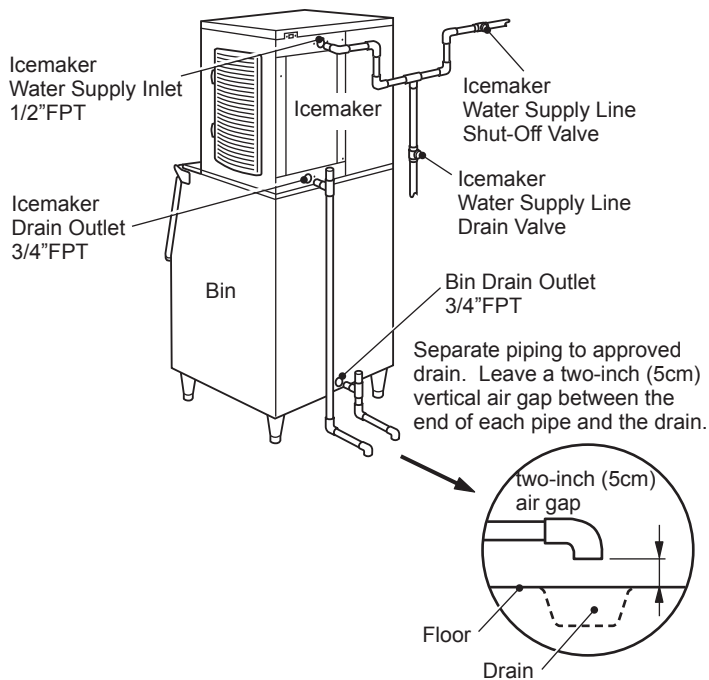

Fig. 5
- \* A vented tee connection is required for proper drain flow. See Fig. 5.
- \* The icemaker drain line must be run separately from the storage bin/dispenser unit drain line. See Fig. 5.